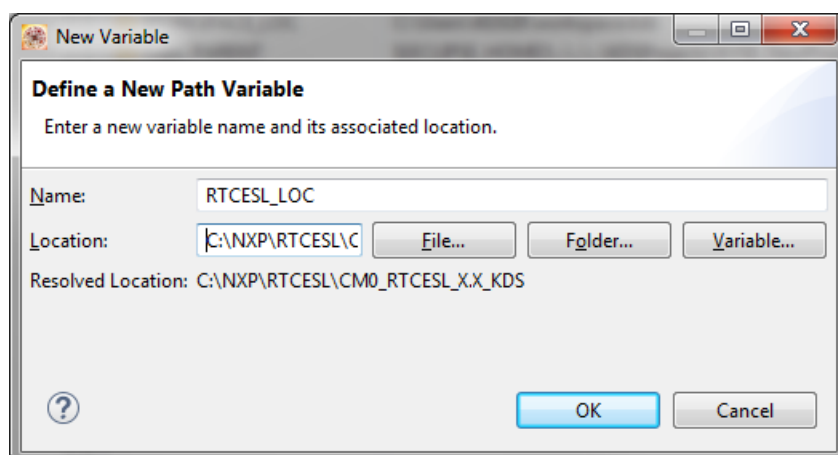

Figure 1-17. New variable
4. In the dialog that appears (see Figure 1-17), type this variable name into the Name box: RTCESL_LOC.